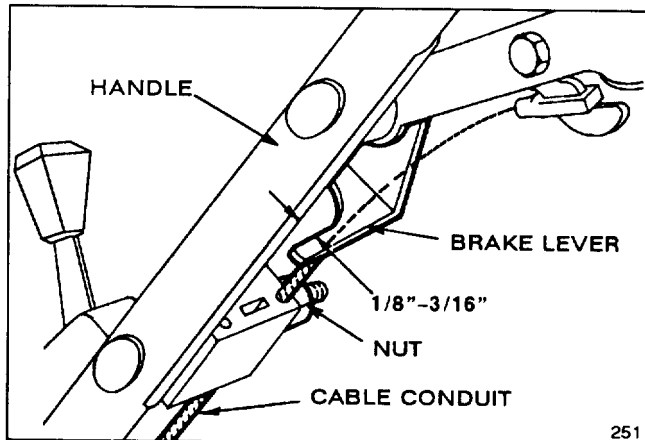

Figure 23
2. **CHECK ADJUSTMENT** (Fig. 23)—Move control bar toward handle until slack in wire is removed. Gap between brake lever and handle must be $1/8"$ – $3/16"$. See step 3 for adjustment.
3. **ADJUST CABLE CONDUIT** (Fig. 23)—Loosen nut on cable bracket. Insert $1/8"$ – $3/16"$ object between brake lever and handle. Pull down on cable conduit until all slack is removed from wire. Then tighten nut.